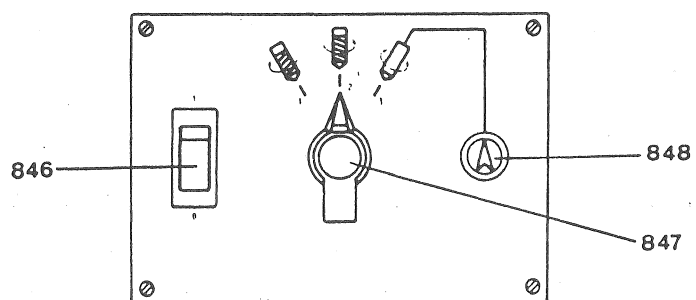

Fig 3
- Set the "pulsator" switch (830) to position (I).
- Adjust the machining time by means of potentiometer (829).
- Adjust the withdrawal time of the electrode by means of potentiometer (828).
3.19 Operation of the rotary spindle (fig. 3)